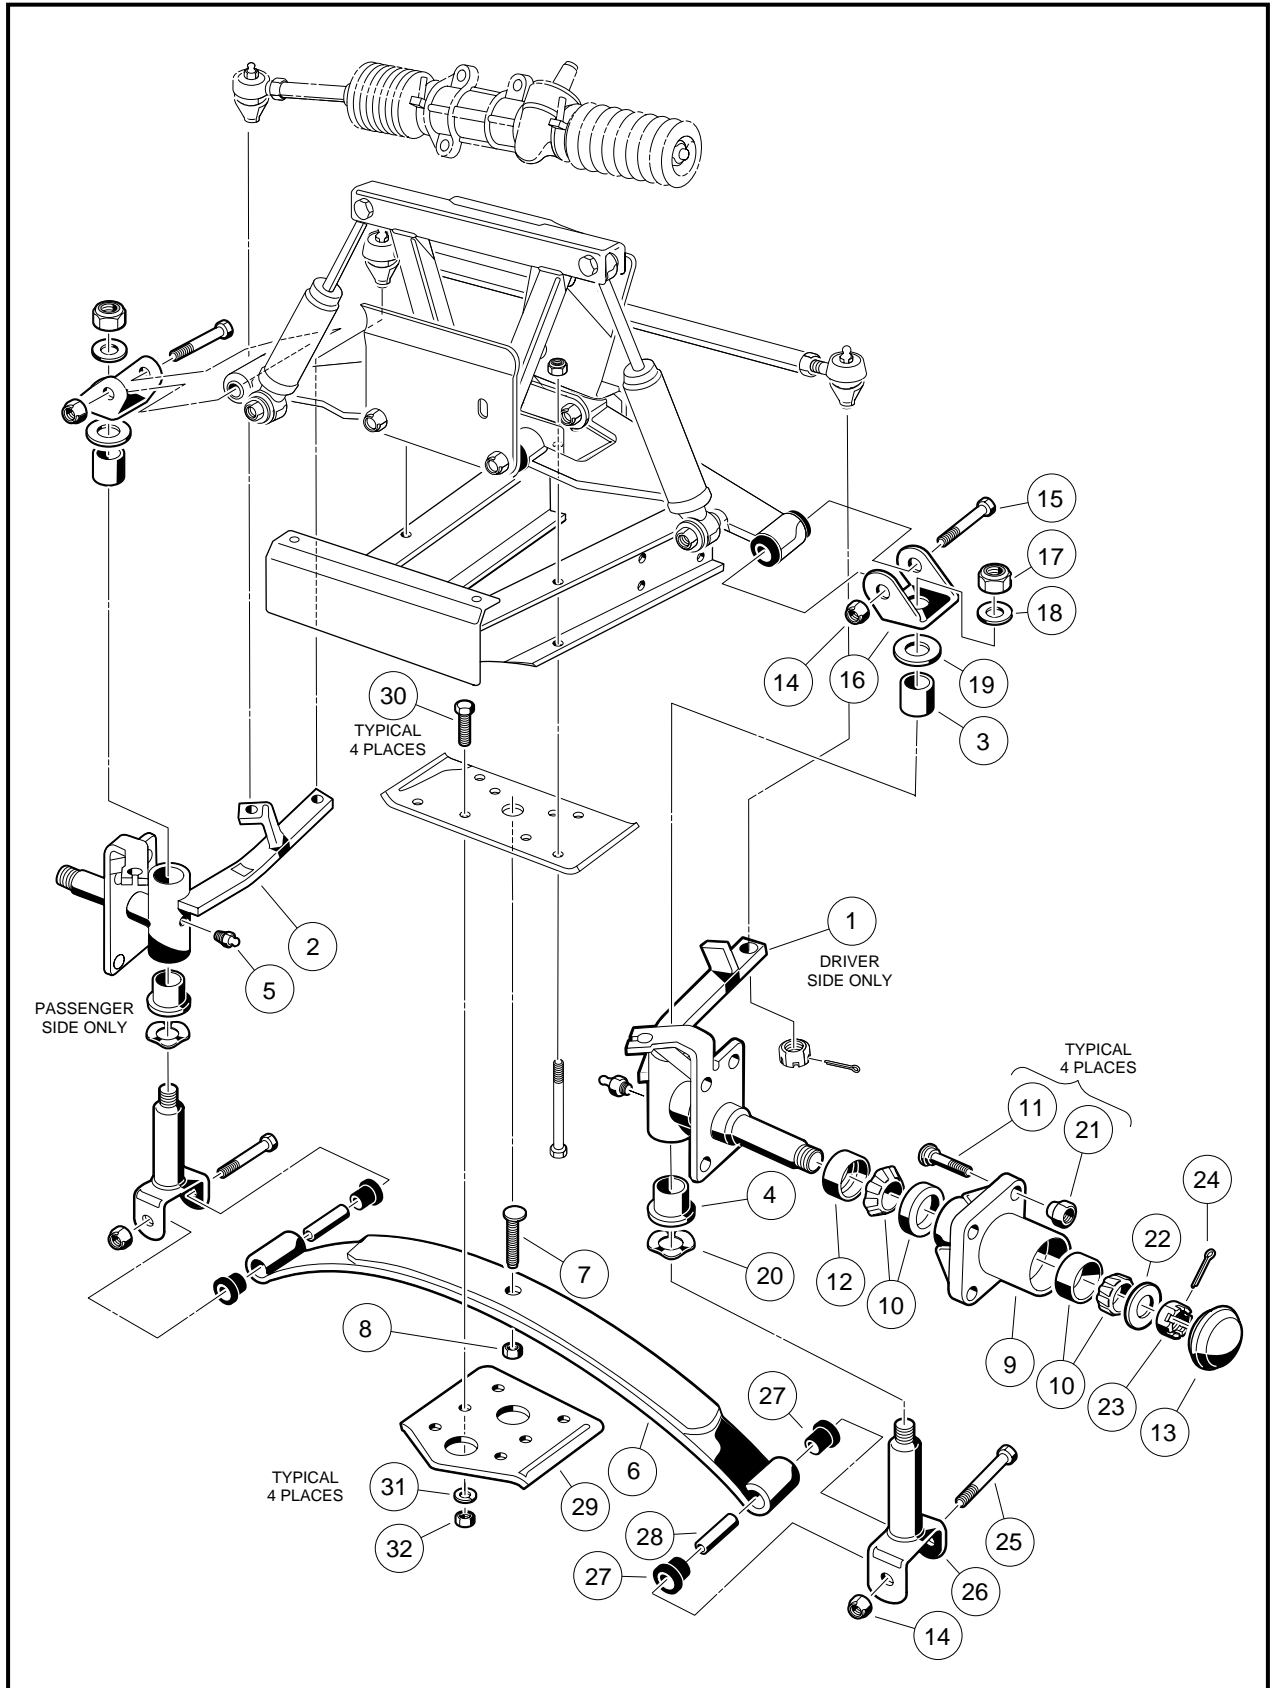

Figure 7-22 Four-Wheel Brake – Lower Portion
2. Loosen (do not remove) the four bolts (30) that secure the leaf spring (6) to the bottom spring plate (29) (**Figure 7-22, Page 7-21**). **See also Figure 7-17, Page 7-16.**
3. Loosen (do not remove) the hex nut (8) on the adjustment eccentric (7) (**Figure 7-17, Page 7-16**) in the center of the spring. **See also Figure 7-22, Page 7-21.**
5. After adjusting camber, tighten the four spring retaining bolts (30) (**Figure 7-22, Page 7-21**) to 23 ft-lb (31 N-m). Then roll the vehicle forward one full tire revolution and recheck the camber. **See also Figure 7-16, Page 7-16.**
6. Tighten the hex nut (8) on the adjustment eccentric (7) to 10 ft-lb (13.5 N-m) (**Figure 7-22, Page 7-21**). **See also Figure 7-17, Page 7-16.**
3. Remove the nuts (14) and bolts (25) from the bottom of each king pin (26) (**Figure 7-22, Page 7-21**).
4. Remove the four bolts (30), four nuts (32), four lock washers (31), and bottom spring plate (29) (**Figure 7-22, Page 7-21**).
5. Remove multi-leaf spring (6) (**Figure 7-22, Page 7-21**).
6. Check the condition of the urethane bushings (27) and steel sleeves (28) (**Figure 7-22, Page 7-21**). Replace any that are worn or damaged.
1. Install urethane bushings (27) and steel bushings (28) into leaf spring eyes (**Figure 7-22, Page 7-21**).
2. Install multi-leaf spring (6), bottom spring plate (29), four bolts (30), four lock washers (31), and four nuts (32) (**Figure 7-22, Page 7-21**). Using a crisscross pattern sequence, tighten bolts to 23 ft-lb (31 N·m).
3. Install spring in king pins (26) with bolts (25) and nuts (14) (**Figure 7-22, Page 7-21**). Tighten to 17 ft-lb (23 N·m).
4. Remove the nut (17) and lock washer (18) from the top of the kingpin (26) (**Figure 7-22, Page 7-21**).
5. Raise the upper clevis (16) from the kingpin (**Figure 7-22, Page 7-21**).
6. Remove the thrust washer (19) (**Figure 7-22, Page 7-21**).
7. Slide the spindle off the kingpin (26) (**Figure 7-22, Page 7-21**).
8. Remove the wave washer (20) and inspect it (**Figure 7-22, Page 7-21**). If the washer is broken or has a wave bottom to wave crest height dimension of less than .040 inch (0.10 cm), it must be replaced.
9. Remove bolt (25) and nut (14) from bottom of kingpin (26) (**Figure 7-22, Page 7-21**) and remove kingpin.
11. Inspect the bushings (3 and 4) (**Figure 7-22, Page 7-21**). If the bushings are worn or damaged, remove them and press in new ones. **See following NOTE.**
2. Install the kingpin (26) over the leaf spring eye. Insert the bolt (25) and install the nut (14) (**Figure 7-22, Page 7-21**). Tighten the bolt to 17 ft-lb (23 N-m).
3. Install the wave washer (20) (**Figure 7-22, Page 7-21**).
4. Install the steering spindle on the kingpin. Then install the thrust washer (19), upper plate clevis (16), lock washer (18), and nut (17). Tighten the nut to 40 ft-lb (54.2 N-m) (**Figure 7-22, Page 7-21**).